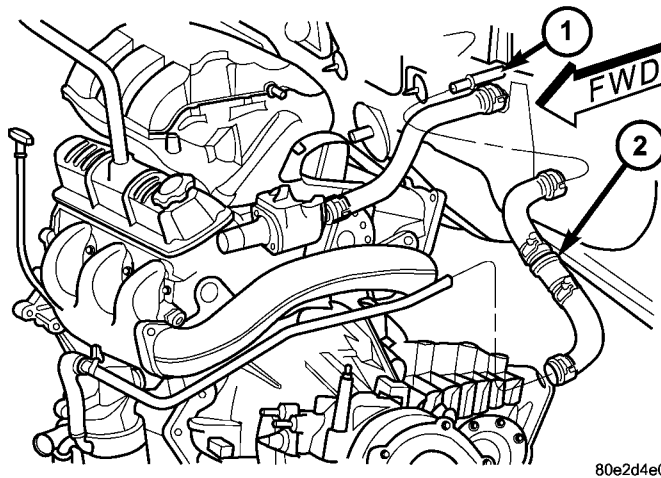

Fig. 1 HEATER RETURN LINE & RESTRICTOR
1. Using pliers, remove both tension clamps from the heater core return hose (top hose to heater core) (Fig. 1).